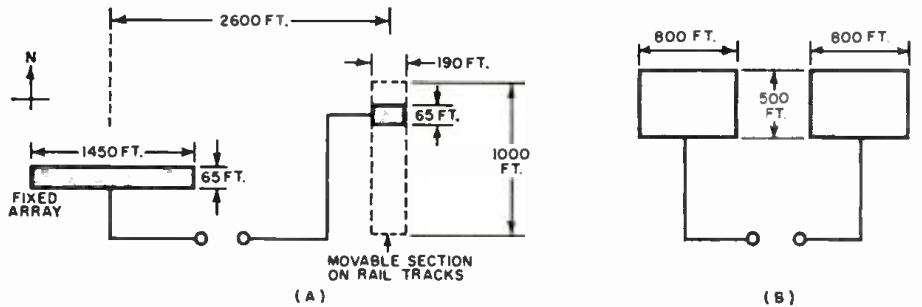

Fig. 1. (A) Layout of the 178-mc. Cambridge-Mullard radiotelescope antennas. (B) Equivalent antenna sizes if technique of aperture synthesis were not used.
take up, in turn, a series of positions relative to the main fixed section of the antenna. By taking observations and then shifting the movable section next day and repeating the process, the final results—obtained by vector addition—are equal to those which could be obtained with a very much larger array. The resolution corresponds to that which would be achieved by exploring the sky with a very narrow beam produced by an antenna array of dimensions comparable with the widest spacing. The 178-mc. interferometer telescope at Cambridge provides results which, for many purposes, are equivalent to those which could be obtained from two 800-foot by 500-foot arrays. Yet the actual antennas consist only of one long 1450-foot by 65-foot fixed array in conjunction with a 190-foot by 65-foot movable section which moves along railroad tracks (see Fig. 1). Both sections are cylindrical parabolas with 65-foot apertures.
Fig. 1. With no capacitor (A), output of half-wave rectifier is unfiltered. As capacitance is increased (B), ripple amplitude is reduced and (C) finally eliminated by very high capacitance.